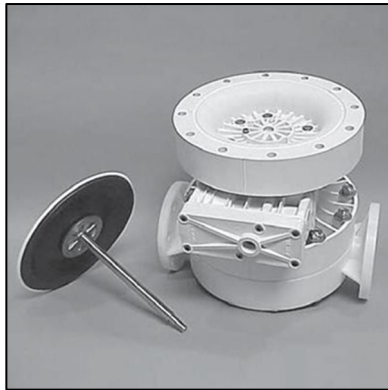

Figure 10a
With the adjustable wrenches, remove the bolts that secure the liquid chamber to the air chamber. Using an adjustable wrench, or by rotating the diaphragm by hand, remove the diaphragm assembly (Figure 10a).
- 1) The outer piston, diaphragm and inner piston remain attached to the shaft and the entire assembly can be removed from the center section (Figure 10a);